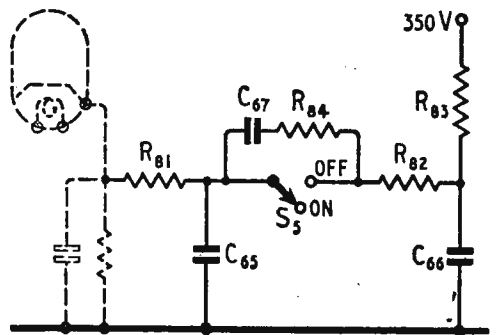

Fig. 18. Circuit of fading control.
**Fading Control.**—The circuits of Figs. 13 and 15 have no provision for electrical fading. Fig. 18 shows a network which, when connected to the cathode of  $V_8$  in
**List of Components for Fig. 18.**